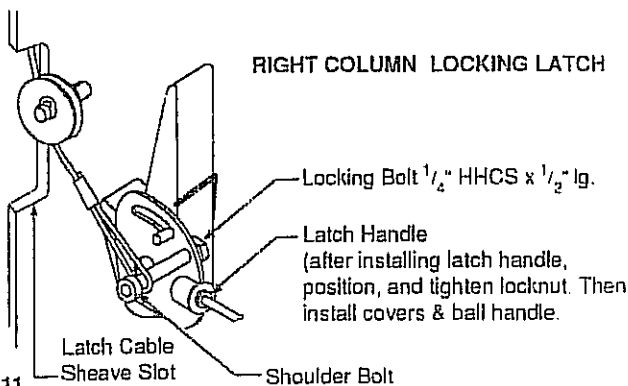
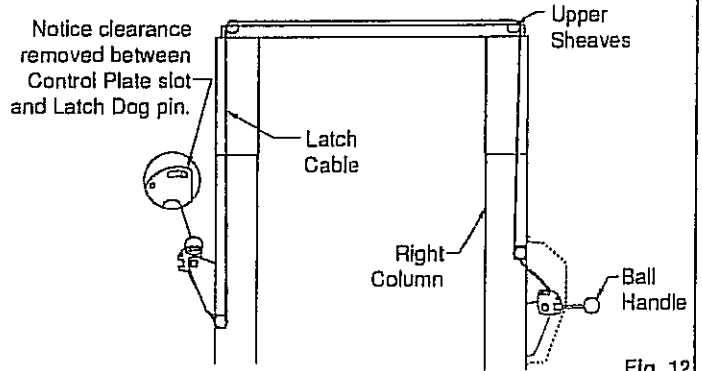
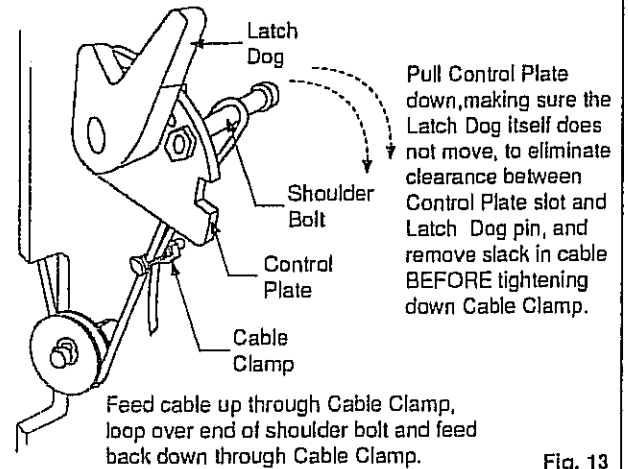
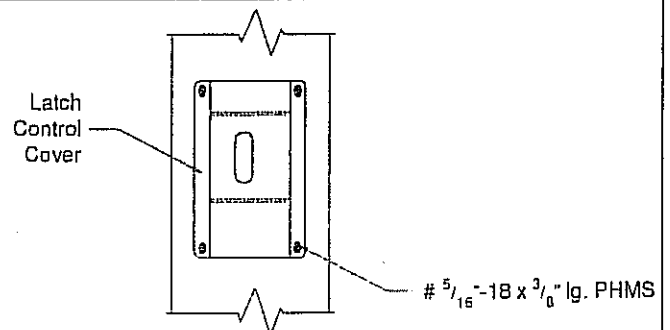

Fig. 11
Fig. 12
Fig. 13
Fig. 14
12. **Latch Cable:** Lower both carriages down so that the top of each carriage is below the latch cable sheave slot. Slip loop end of cable over end of shoulder bolt on right side latch control plate, Fig. 11. Feed the other end of the cable through the slot making sure that the cable is running under the bottom side of the sheave, Fig. 11, and inside the right column. Route cable inside column and over the top of the upper sheave, Fig. 12. Continue routing cable to the left column upper sheave, Fig. 12 & Fig. 9 (C), making sure the cable goes over the top of the upper left column sheave. Note how cable goes between the equalizer cable sheaves. Bring the cable down inside the left column and feed the end of the cable through the sheave slot so that the cable is now back outside the column, Fig. 13. Route cable under the bottom side of the sheave. **At this point you MUST install the right column latch cover Fig. 14, and latch Handle Fig. 11, then continue.** Insert cable up through cable clamp, loop around shoulder bolt and
back down through the clamp. Next, pull the Control Plate down, Fig. 13, to eliminate any clearance between the Control Plate slot and the Latch Dog pin (making sure the Latch Dog itself does not move), also see Fig. 12, and pull cable snug to remove any excessive slack and wrench tighten clamp, Fig. 13. When raising, listen to latches to be sure that both latch dogs fall into latch slots. If they do not, Loosen clamp and adjust tension as necessary. When latches are adjusted to desired tension, hold clamp with pliers and tighten clamp securely. See Fig. 14 & "Locking Latch Adjustments" below for further adjustment procedures. Recheck, make sure cable is properly routed through sheaves. Then install left latch cover Fig. 14.
4. Make necessary adjustments if required, see Fig. 13, recheck latch function.